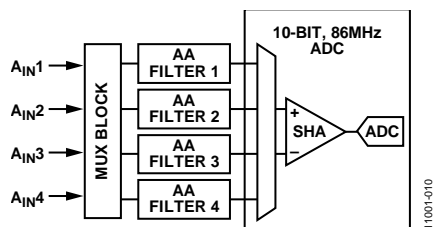
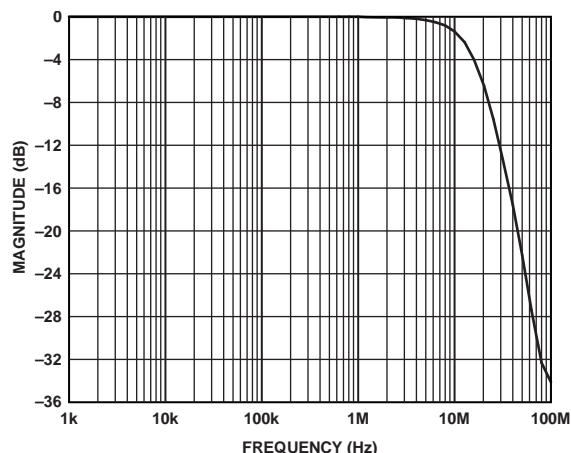
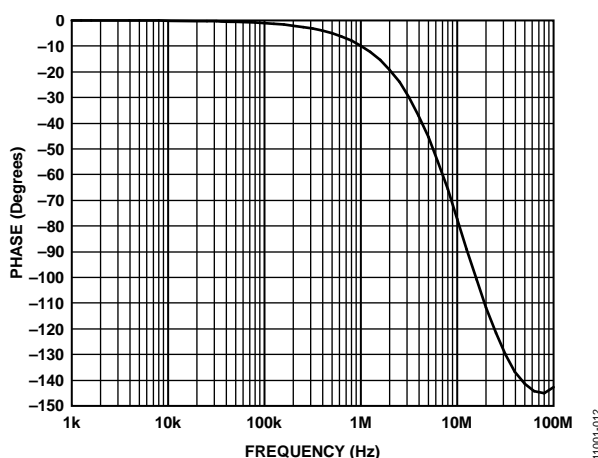

Figure 9. Antialias Filter Configuration
Figure 10. Antialiasing Filter Magnitude Response
Figure 11. Antialiasing Filter Phase Response
The ADV7182 has optional on-chip antialiasing (AA) filters on each of the four channels that are multiplexed to the ADC (see Figure 9). The filters are designed for standard definition video up to 10 MHz bandwidth. Figure 10 and Figure 11 show the filter magnitude and phase characteristics.